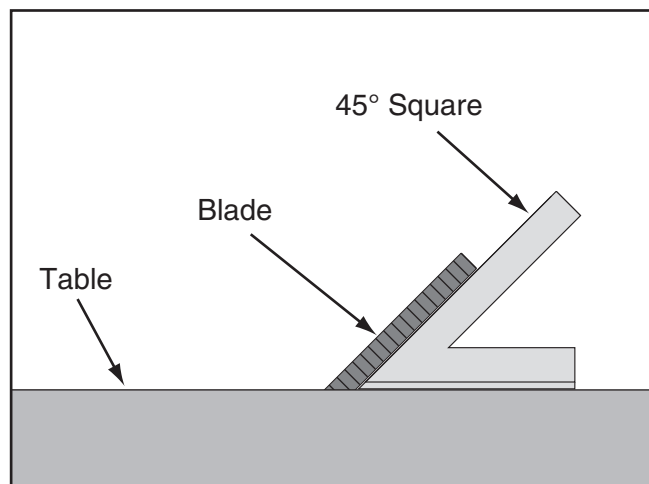

Figure 105. Checking blade at 45°.
- Place a 45° square against table and blade so it contacts blade evenly from bottom to top, as shown in **Figure 105**. Make sure a blade tooth does not obstruct placement of square.
- Place a 45° square against blade, as shown in **Figure 105**, then adjust blade until it is exactly 45° to table.